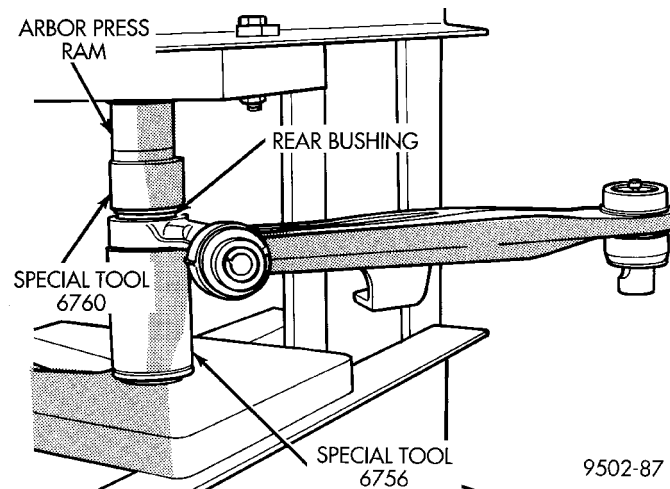

Fig. 79 Rear Bushing Installation
(2) Place lower control arm in an arbor press supported at rear bushing hole using Receiver Cup, Special Tool 6556 (Fig. 79). Correctly position Remover/Installer, Special Tool 6760 on top of rear control arm bushing (Fig. 79).